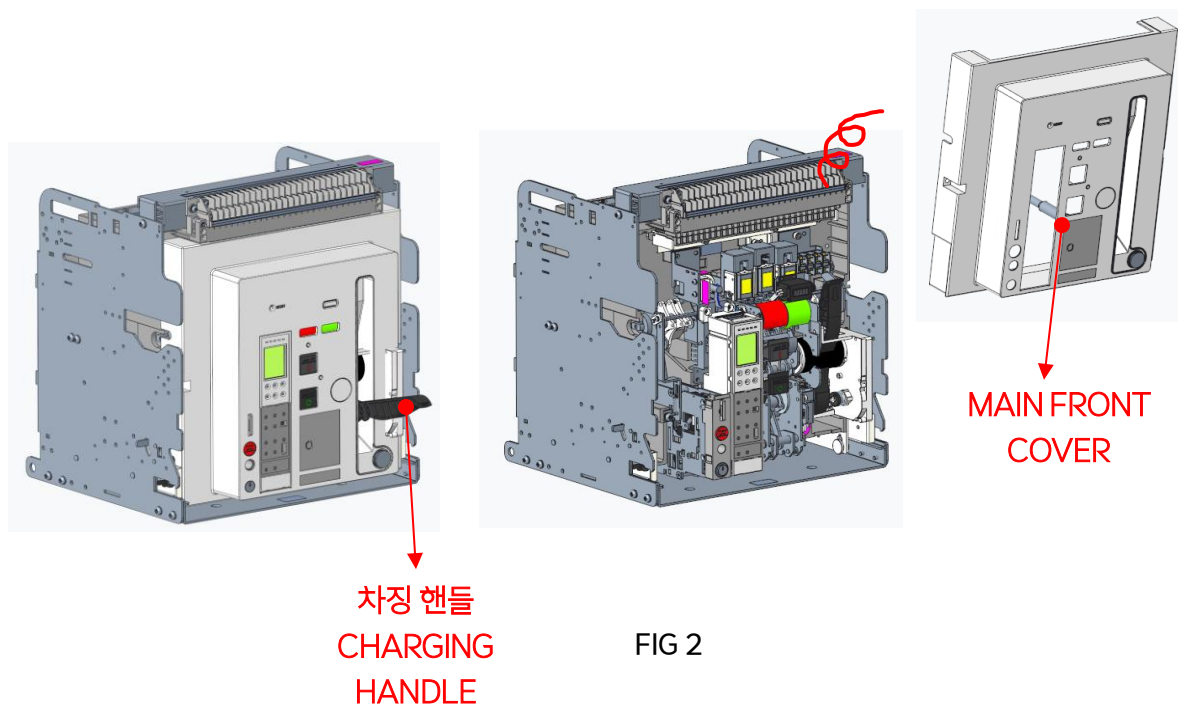

FIG 2
2. Let down the CHARGING HANDLE and disassemble MAIN FRONT COVER. [FIG 2]